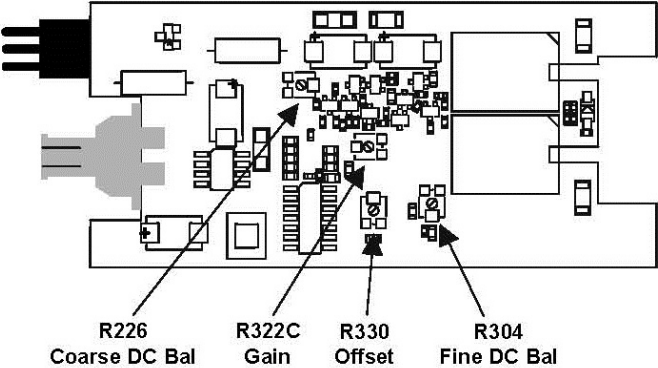

Figure 11, Amplifier Board Adjustment Locations
- 5. Adjust **Coarse DC Bal** (R226) on the amplifier board for an output voltage of 0 mV -10 mV. (See Figure 11 for location.)
- Adjust **Offset** (R330) to bring the trace back to exactly center screen. (See Figure 11.)
- Adjust **GAIN** (R322C) so that the DMM reading is within ± 1 mV (0.5%) of the reading recorded in step F-6. (See Figure 11.)